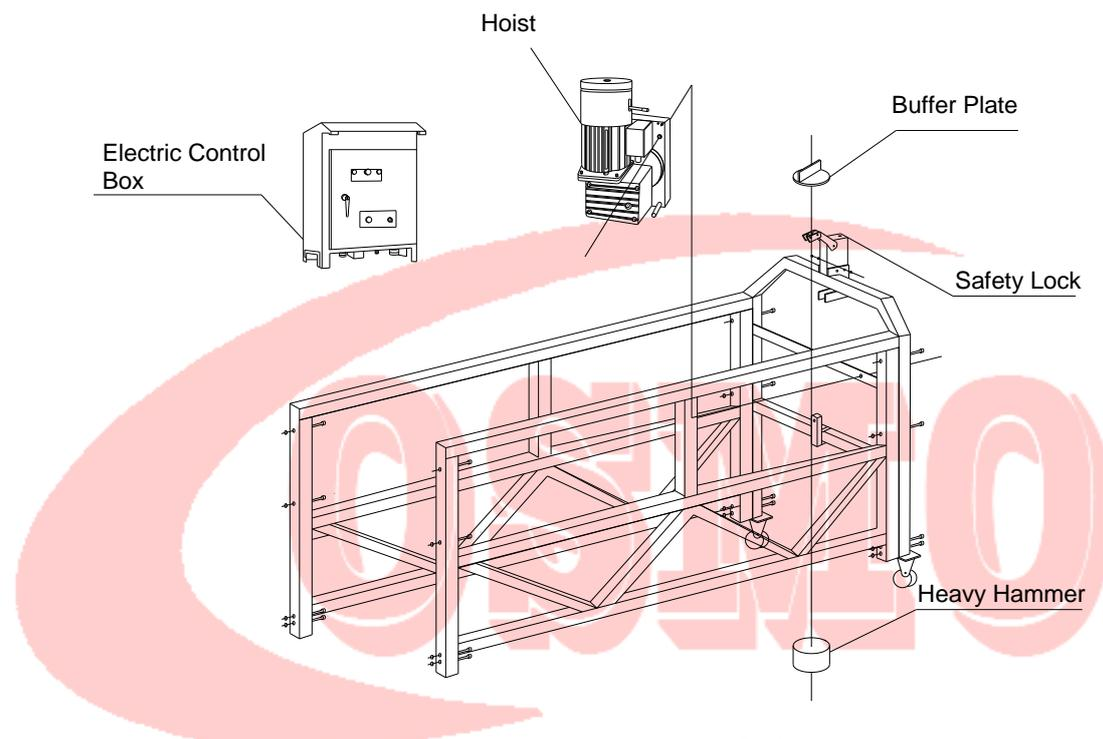

Figure 13 Installation of Hoist & Safety Lock
5.4.1.1 Installation of LTD hoist(See Figure 13):We offer following two methods for your option.